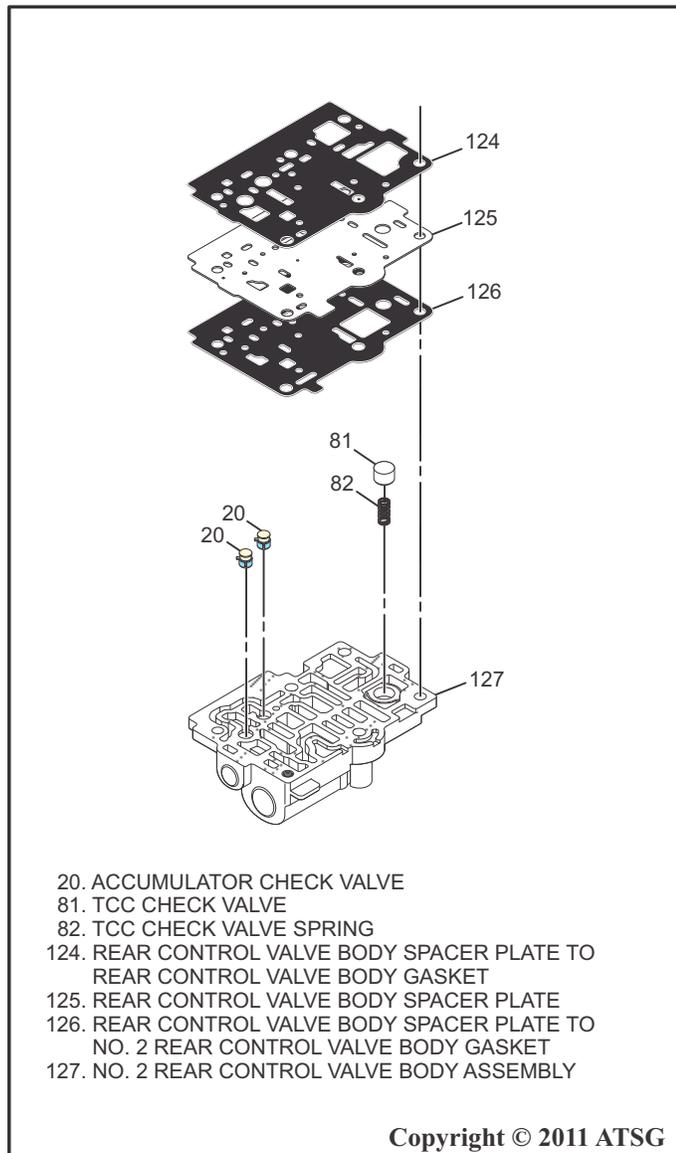

Figure 163
20. Lift and remove the rear control valve body spacer plate to rear control valve body gasket, the rear control valve body spacer plate and the rear control valve body spacer plate to No. 2 rear control valve body gasket as shown in Figure 163.
21. Remove the TCC check valve, the TCC check valve spring and the two accumulator check valves as shown in Figure 163.